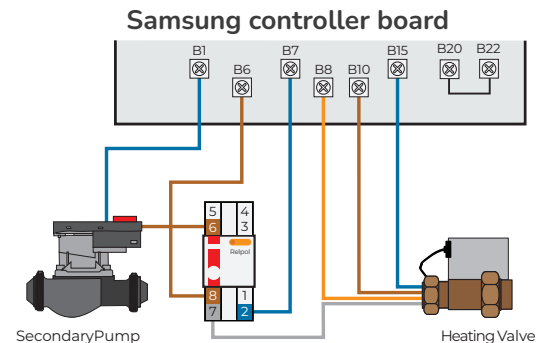

figure 24
2. Add a wire between B20 and B22 in addition to the changes shown (figure 24).